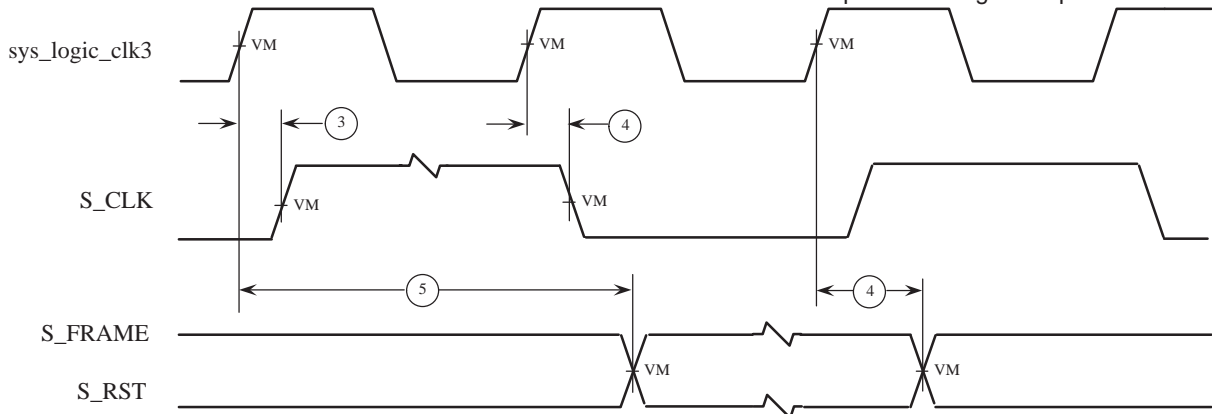
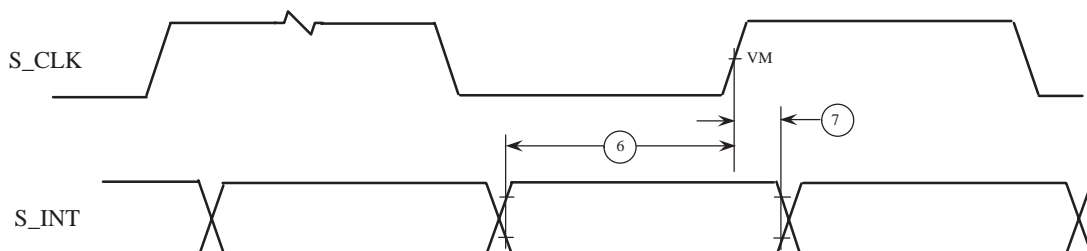

Figure 19: EPIC Serial Interrupt Mode Output Timing Diagram
Figure 20: EPIC Serial Interrupt Mode Input Timing Diagram
- 2 S_RST, S_FRAME, and S_INT shown in Figure 19 and Figure 20 depict timing relationships to sys_logic_clk and S_CLK and do not describe functional relationships between S_RST, S_FRAME, and S_INT. See the Motorola's PC8240 User's Manual for a complete description of the functional relationships between these signals.